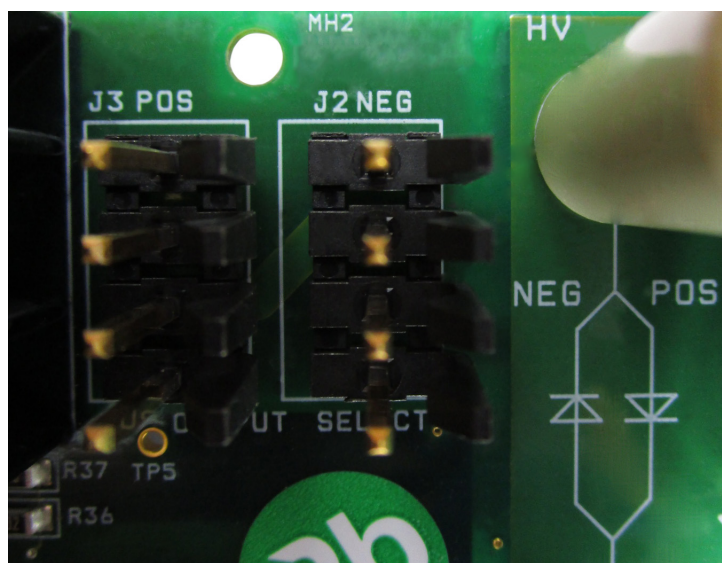

Figure 5. 4-pin header and HV diode diagram
9. Locate the J2 and J3 4-pin header. As shown in **Figure 5**, both headers are the electrical components next to the heat sink.
12. Re-install the HV diode in the proper direction according to the diagram printed on the board directly below the HV diode (see **Figure 5**).